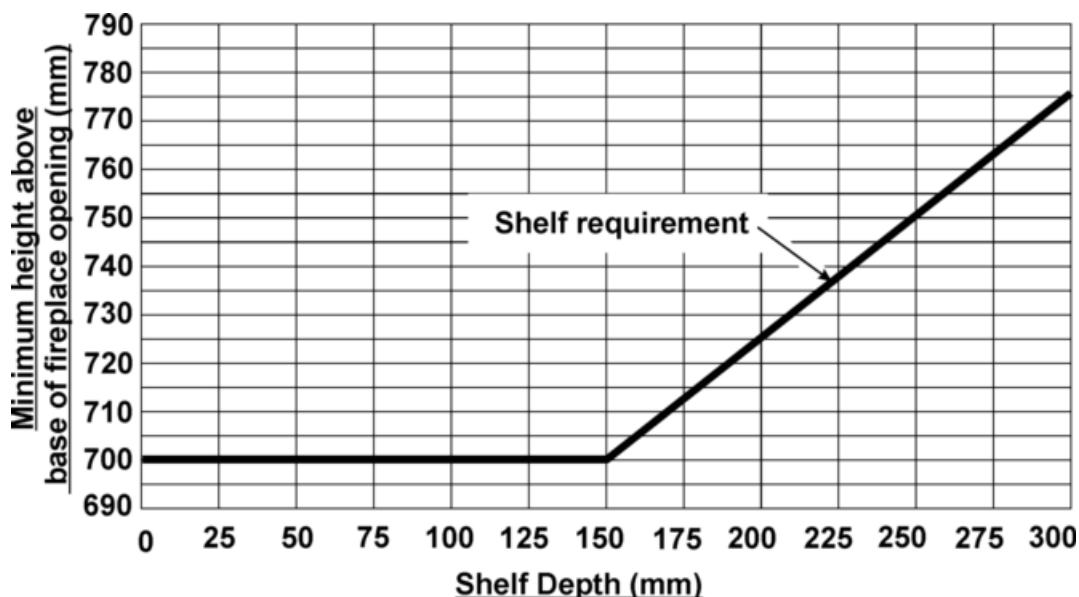

Figure 2. Combustible shelf clearances
- For a shelf deeper than 150mm: 700mm + 12.5mm for every 25mm depth over 150mm (See Figure 2).